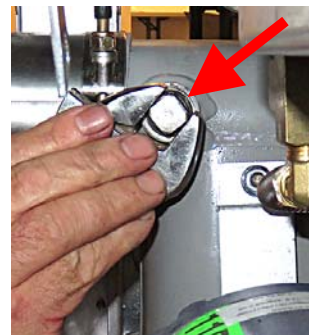

Figure 46
49. Remove the plug from the rear of the drain tube (see Figure 46).